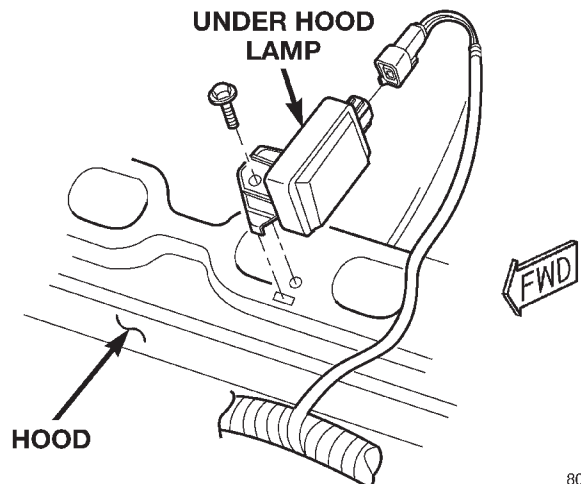

Fig. 8 Underhood Lamp
- (1) Install bulb.
- (2) Install lamp lens.
- (3) Position the underhood lamp on the hood inner panel.
- (4) Install the attaching screw through the lamp and into the hood panel (Fig. 8). Tighten the screw securely.
- (5) Fold lamp housing over and firmly press onto base to snap into place.
- (6) Connect the wire harness connector to the lamp.